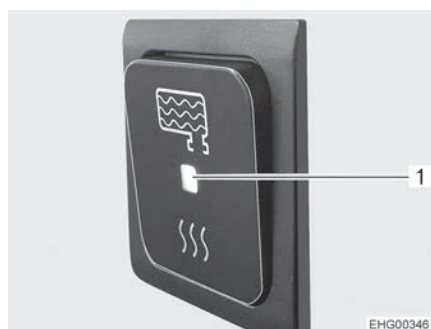

Fig. 147 On/Off switch, switched on
If the On/Off switch of the control has been switched on (Fig. 147), the waste water tank heater switches on automatically as soon as the external temperature drops below 0 °C. This protects the waste water tank from frost.
- Press lower part of the On/Off switch. The LED indicator (Fig. 147,1) is lit.
- Press upper part of the On/Off switch. The LED indicator (Fig. 147,1) goes out.